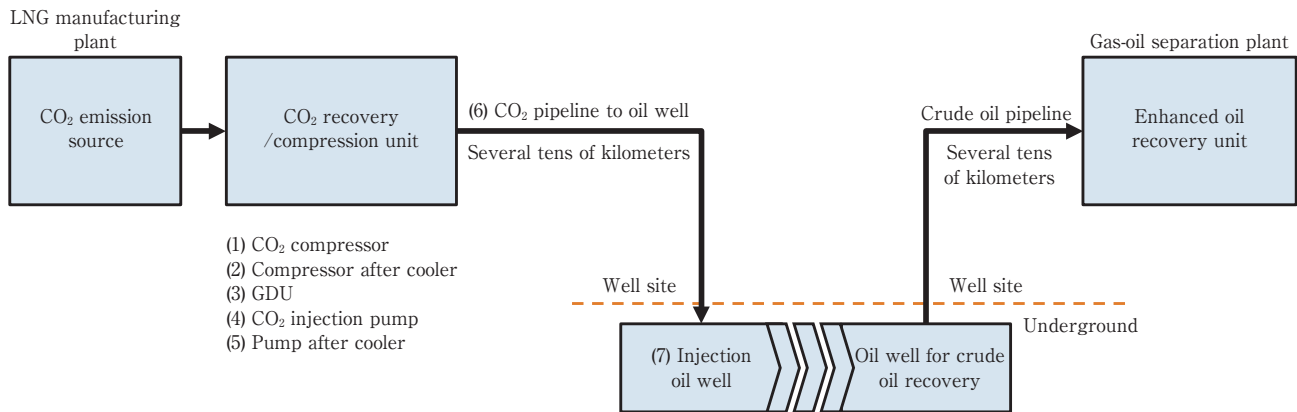

Fig. 2 CO₂-EOR process flow
The equipment (1) to (7) shown in Fig. 2 constitutes the main components used for injecting carbon dioxide into an oil well from a LNG manufacturing plant. The CO₂ injection pump is one of the main components of this process. The functions of the equipment used are described below.
(1) CO₂ compressor